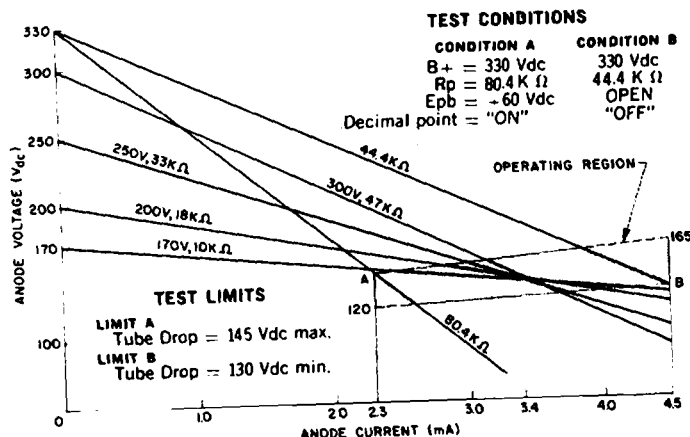

Figure 5. TUBE CHARACTERISTICS DC (NOTE 7)
- For proper NIXIE tube operation, a load line must pass through the operating region (shaded area) above point "A" and below point "B" in Figure 5. Operation at an anode current below point "A" can result in partial or incomplete numeral glow. Operation at an anode current above point "B" can result in shorter life. Typical load lines for 170 Vdc-10 kΩ, 200 Vdc-18 kΩ, 250 Vdc-33 kΩ, and 300 Vdc-47 kΩ are shown. The limits of the operating region were determined at the 330 V-80.4 kΩ, 330 V-44.4 kΩ. At these limits the tubes will exhibit an anode current within the limits of 2.3 ma min. and 4.5 ma max. These limits can be used to determine if a tube meets the specification.